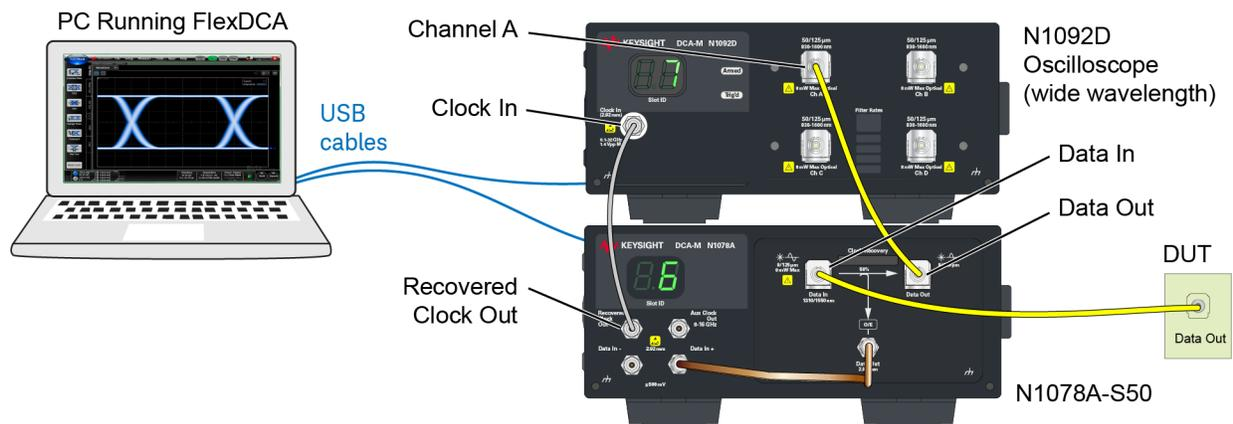

Figure 59. Typical Connection Setup
3. Connect the N1078A as shown in *Figure 59 on page 110*. If connecting to an N1000A (or 86100D), be sure to connect the USB cable to the DCA-X's rear-panel USB port. Notice that the N1078A has single-mode optical connectors: